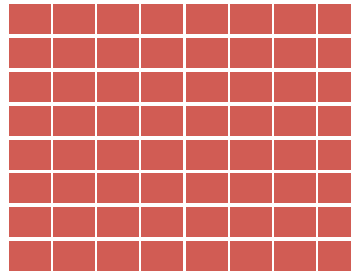

Figure 2A
Figure 2A makes use of (48) 12" x 12" heaters per oven half for complete zone control and flexibility. This many zones may also mean a 50% price premium for the heaters and controls.